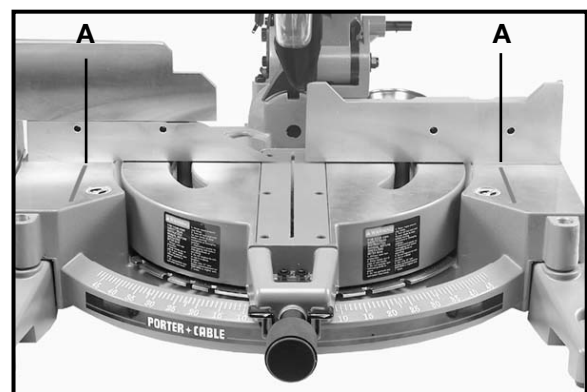

Fig. 17
**WARNING: THE AREA INSIDE THE TWO RED LINES (A) FIG. 17 ON THE TABLE IS DESIGNATED AS A HAZARD ZONE. NEVER PLACE YOUR HANDS INSIDE THIS AREA WHILE THE TOOL IS BEING OPERATED.**